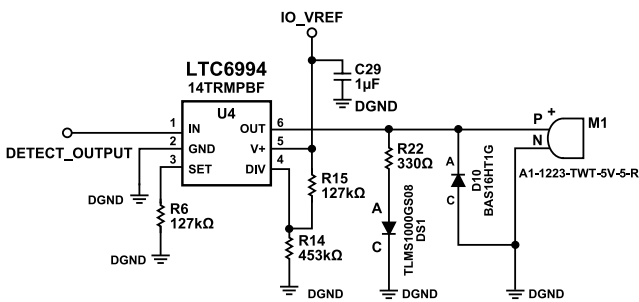

Figure 14. Timer Block LTC6994 Click Sound Generator
The 18 μs output pulse from the Geiger-Mueller event detector circuit is too short to reliably generate a visual indication (LED) or audible click from a buzzer. An LTC6994 programmable delay block/debouncer is configured with a master timebase (t_{MASTER}) of 2.5 μs, N divider value of 512, and a delay falling edge (POL) = 1. This results in a 1.28 ms pulse to an LED indicator and buzzer, producing an easily visible flash and audible click. Figure 14 shows the detailed schematic of the timer block delay.
$$R_{SET} \text{ is } R6 \text{ (see Figure 14)} \quad (3)$$